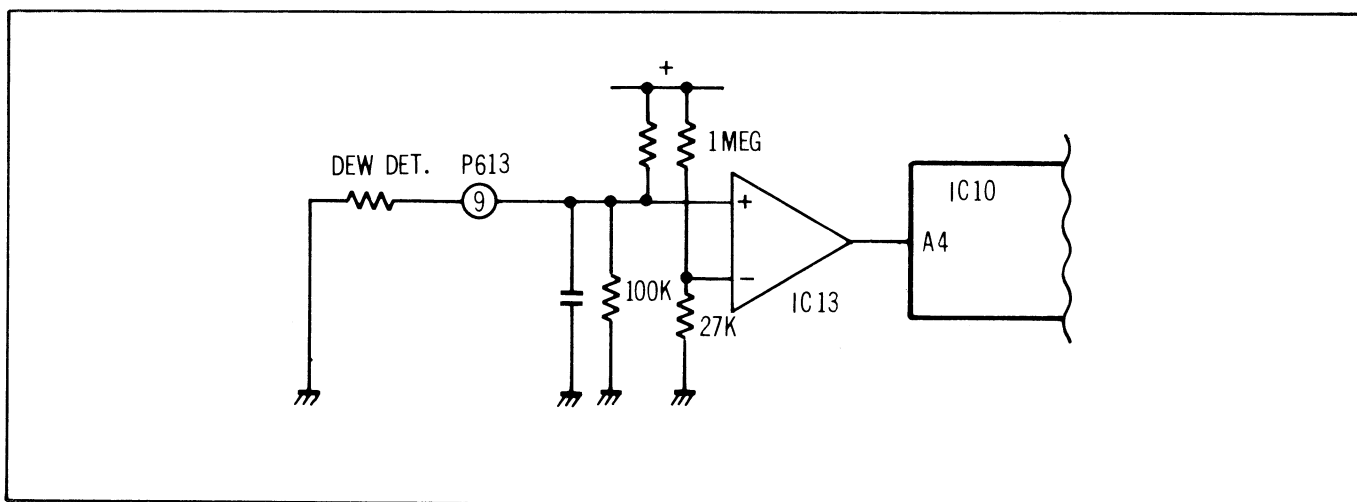

Figure 2-26
When the resistance of the dew detector increases, the normally high output of IC13 (1) goes low. This will stop the unit and cause the warning lamp to light. See Fig. 2-26.